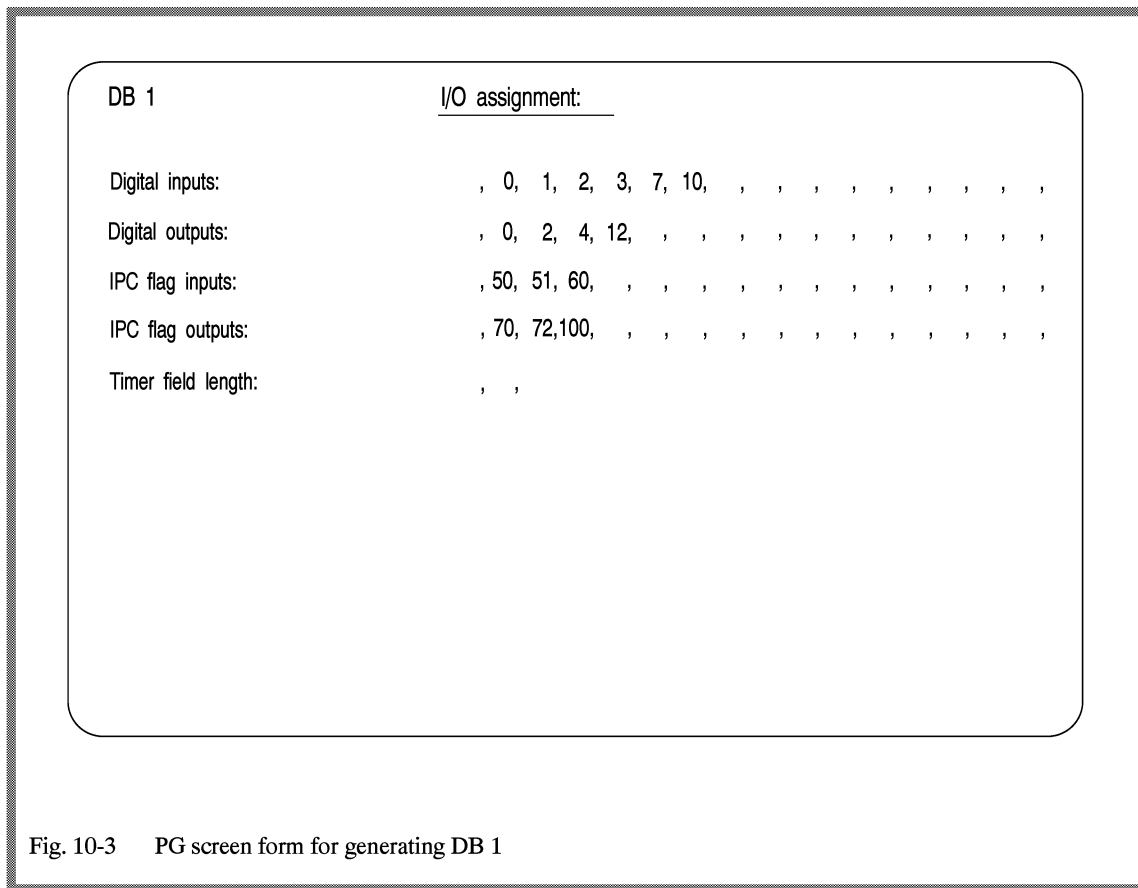

Fig. 10-3 PG screen form for generating DB 1
1. Select the editor for the DB 1 screen form on your PG (refer to Fig. 10-3).